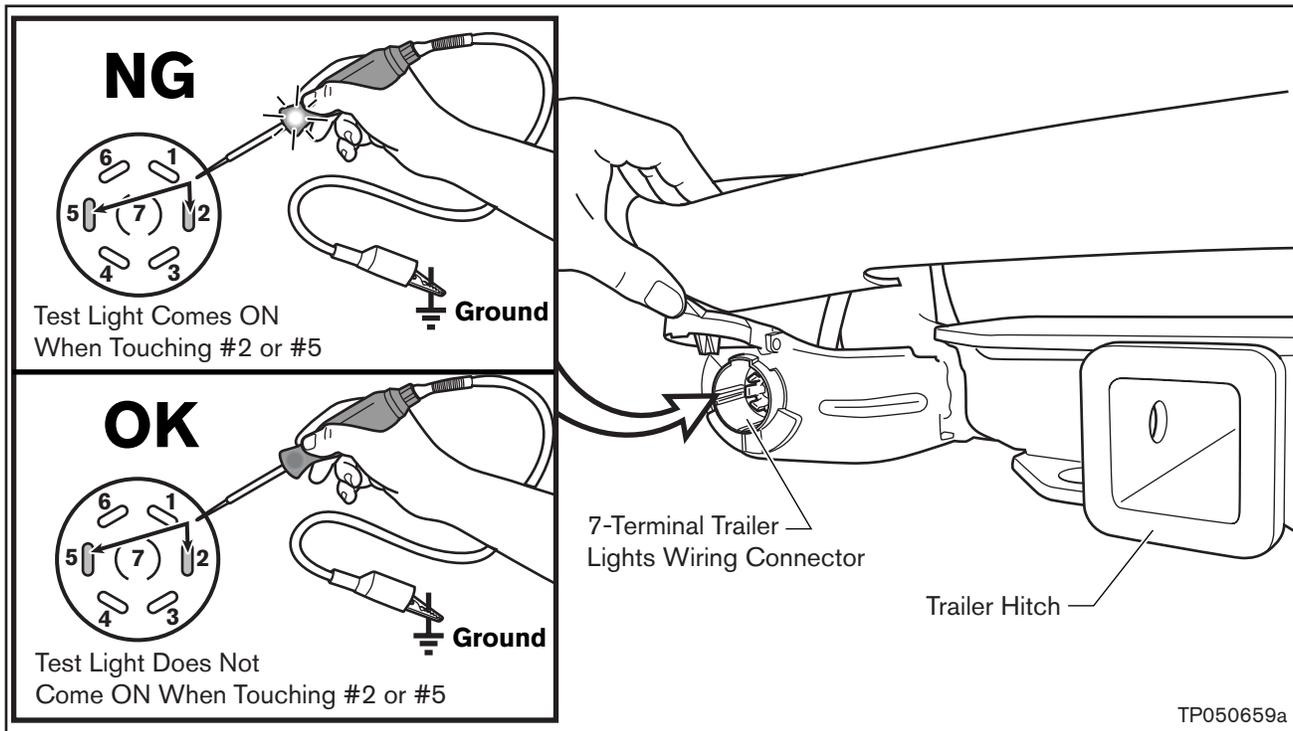

Figure 2
3. Using a Test Light, check for power at terminals **#2** and **#5** (see Figure 2).